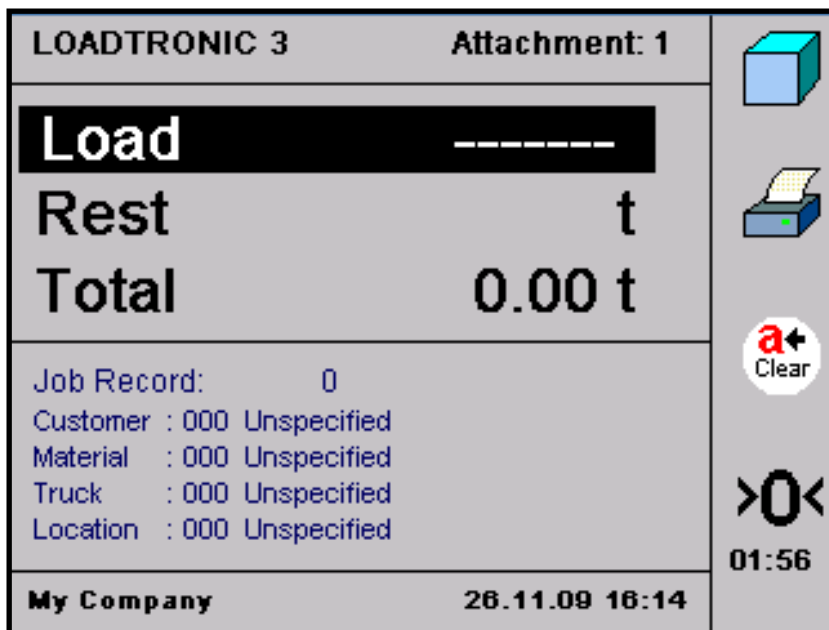

Figure 3-13 Pause mode.
1. Pressing the *up-arrow*/↑ from automatic weighing mode. When the LOADTRONIC 3 is in the pause mode no buckets will be weighed or recorded. The display will show a row of ‘-’ signs, refer Figure 3-13.